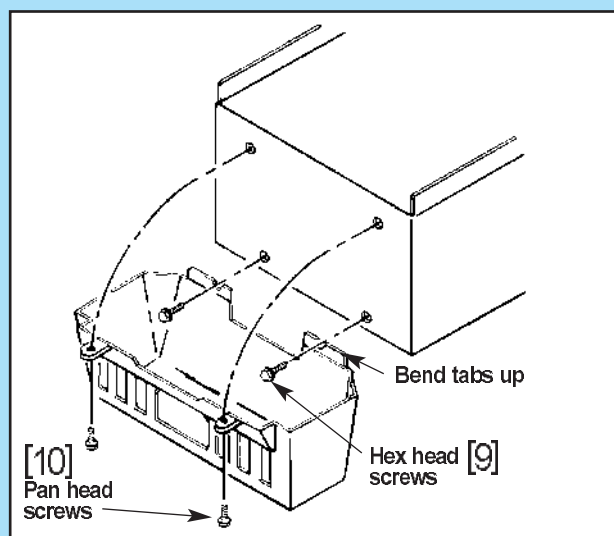

Fig. 11-2
3. Start two (2) No. 8 x 3/4" hex head screws into bottom holes of panel (Fig. 11-2).